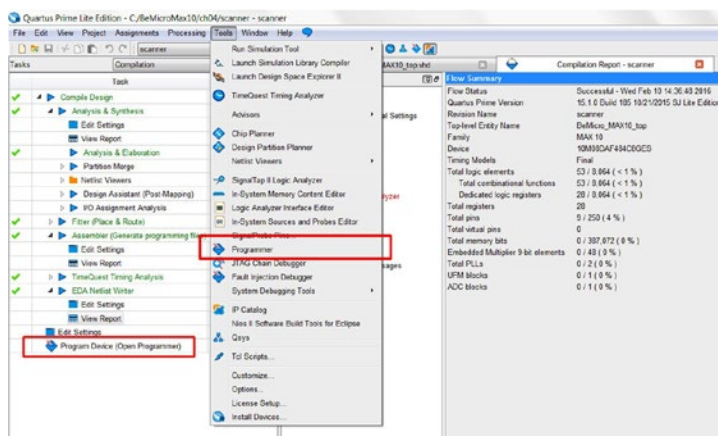

Figure 4-55. Open Altera USB-Blaster Programmer
1. Back in Quartus Prime, switch to the Task tab. Check that the Assembler (Generate programming files) task has a green check next to it (If there isn't a green tick, then double-click the Assembler and it should run and change to a green tick after it finishes) as Figure 4-55 and double-click **Program Device (Open Programmer)** to open the Altera programmer (Figure 4-55).